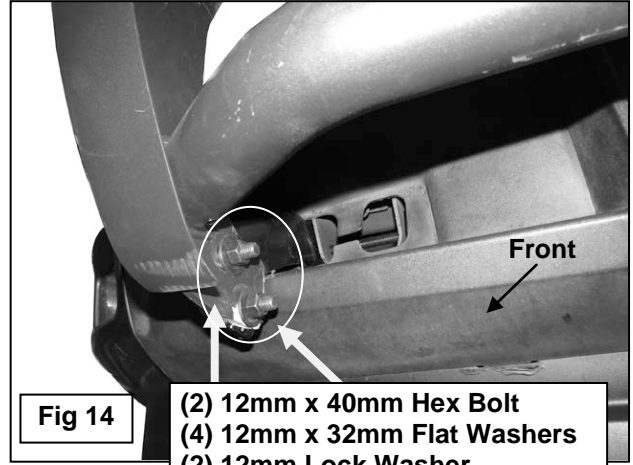

Fig 14
- 8.** With assistance, hold the Grille Guard up in position on the outside of the Mounting Brackets. Bolt the Grille Guard to the Brackets with (4) 12mm x 40mm Hex Bolts, (8) 12mm x 32mm Flat Washers, (4) 12mm Lock Washers, and (4) 12mm Hex Nuts **(Figures 14)**. Snug but do not tighten hardware at this time.